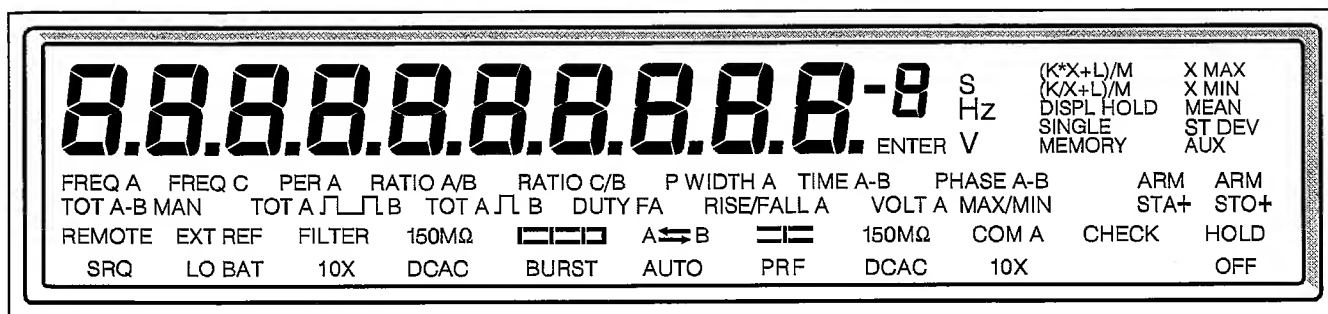

Figure 5-16 Display readout, test 12.
- Check the validity of the display readout according to Figure 5-16.